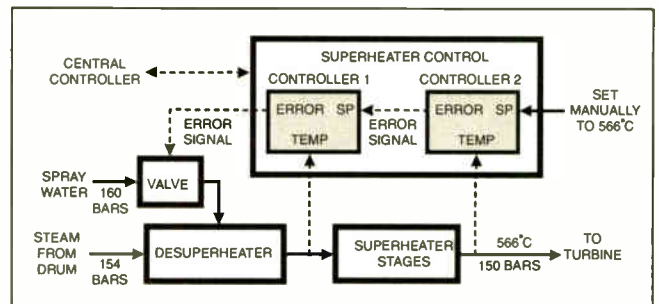

Fig.3. Superheater control comprises two control loops in cascade.
finally required temperature and it is then slightly cooled by spraying water into it. This procedure gives finer temperature control and takes place in the desuperheater (Fig.3).
**A** CIRCUIT diagram for a simple Double Door-Buzzer is shown in Fig.3 and is ideally suited to a smaller space (e.g. one or two rooms), since its volume is quite modest. For instance, it would be ideal for an allotment "hut" where there may be no electricity supply, and where it would remain perpetually on standby to alert you to the presence of visitors.